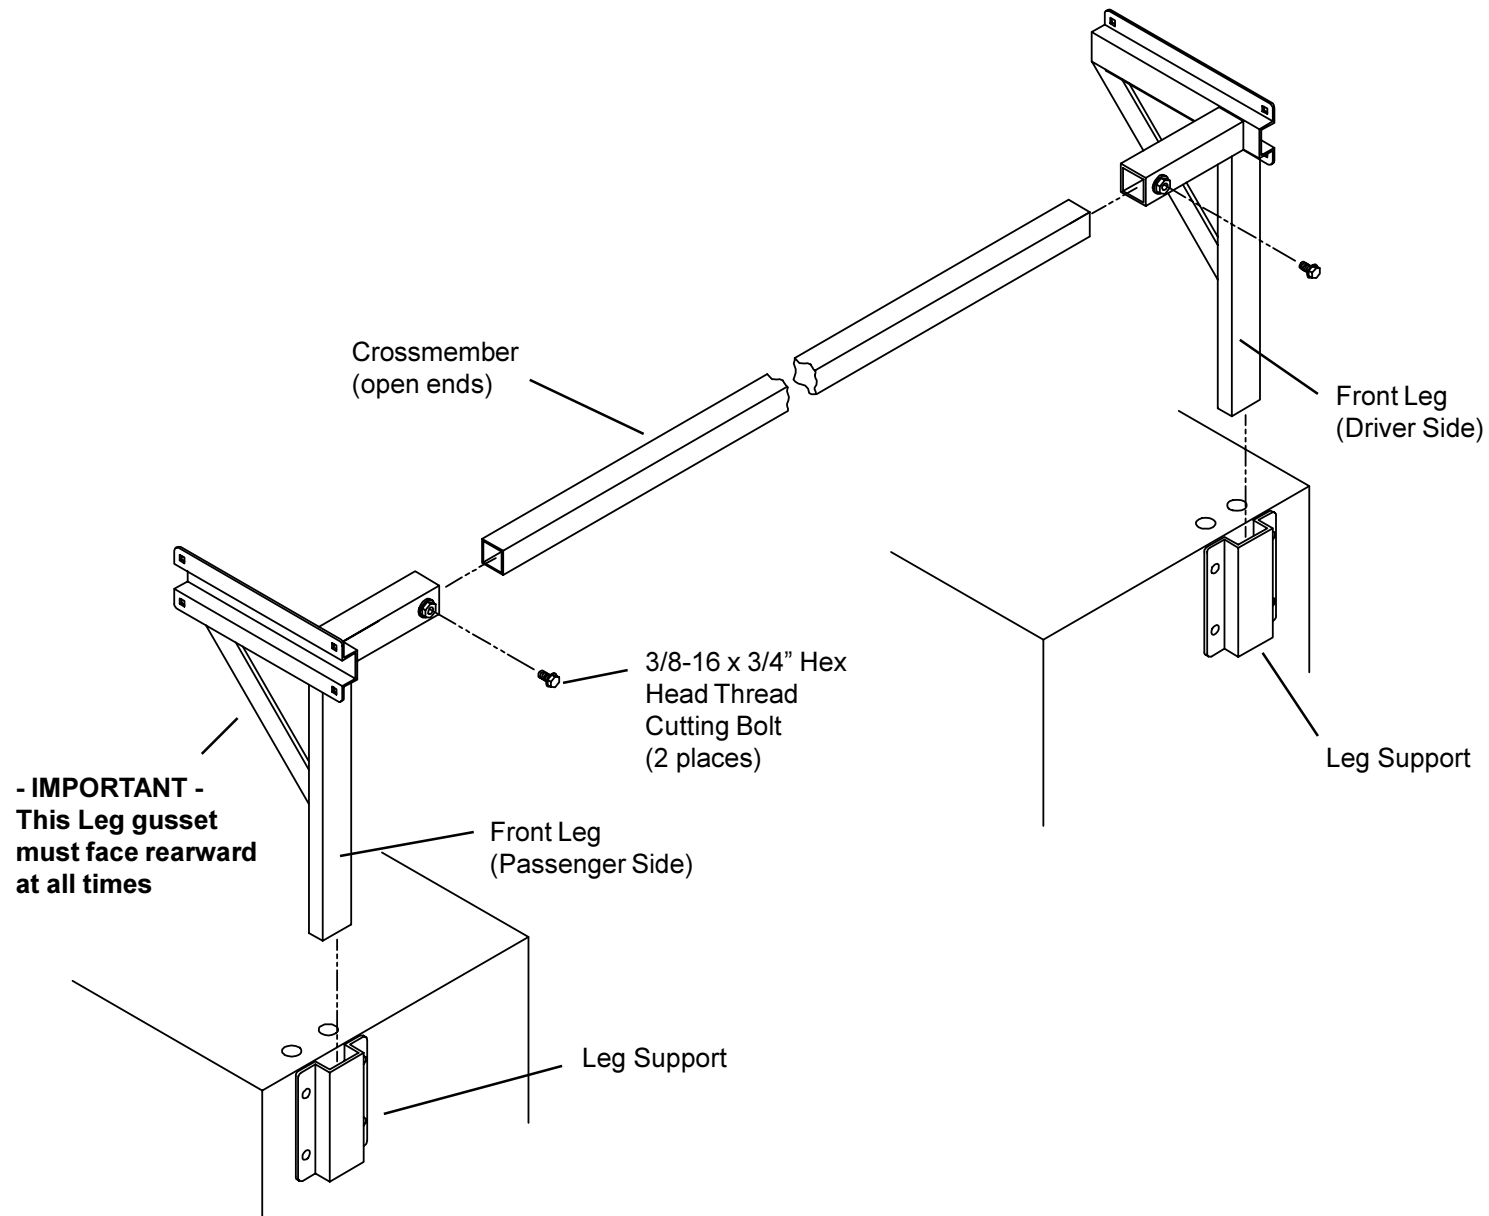

Figure 13. Leg/Crossmember to Leg Support Assembly
5. Front Leg Crossmember - Install each Crossmember end into a Front Leg Socket (see Figure 13.). Place the Leg/Crossmember assembly into the Leg Supports at the front of the truck with the Leg gussets facing rearward. Tighten the Leg Supports so the Legs are at 90 degrees to the service body. Fasten the Crossmember in the Leg sockets.